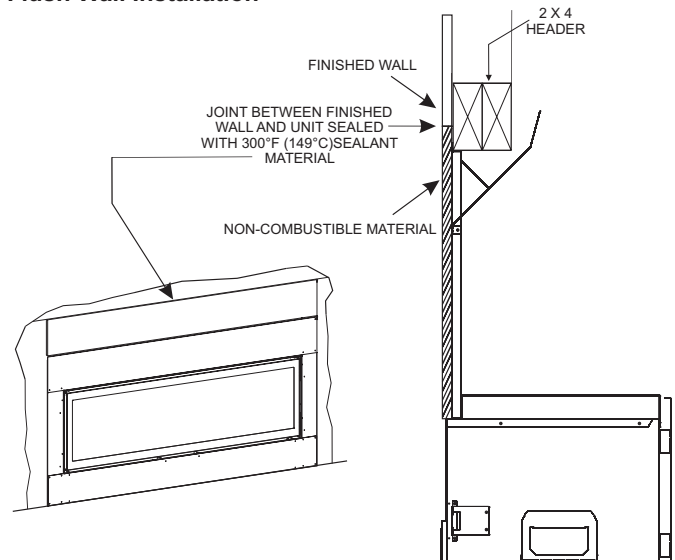

Figure 32
- Non-Combustible board installed over the fireplace face (framing bracket flush). **See Figure 32.**